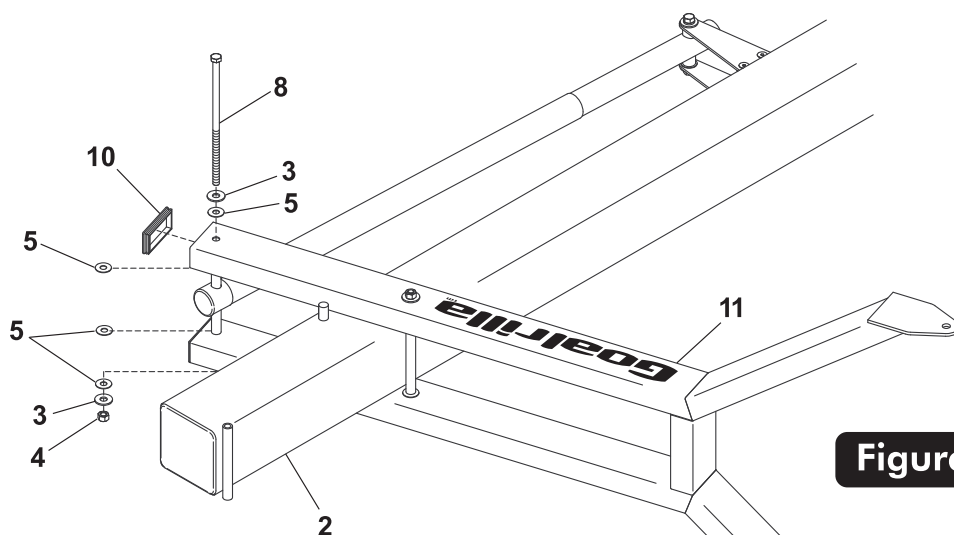

Figure 6
6. Secure Actuator (#16) to Lower Arm (#11) using one bolt (#8), two flatwashers (#3), four plastic washers (#5) and one thin locknut (#4). See Figure 6. Tighten both bolts (#8)